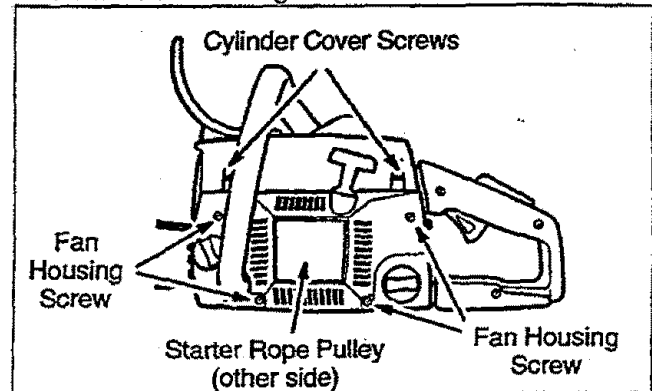

Figure 54
STARTER ROPE REPLACEMENT (Fig. 54, 55, 56, 57, 58 & 59)
- Reinstall the 4 fan housing screws and tighten the 2 cylinder cover screws. Fig. 54.